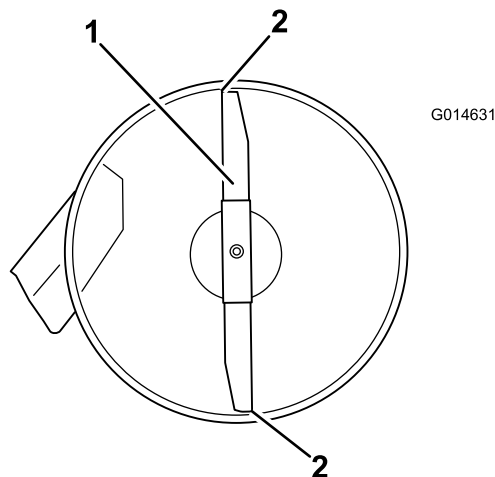

Figure 54
4. Carefully rotate the blades so they are facing front to rear (Figure 54).
5. Measure from the tip of the front blade to the flat surface and the tip of the rear blade to the flat surface (Figure 54).
9. After adjustment, check the front-to-rear slope again, continue adjusting the nut until the front blade tip is 1.6 to 7.9 mm (1/16 to 5/16 inch) lower than the rear blade tip (Figure 54).